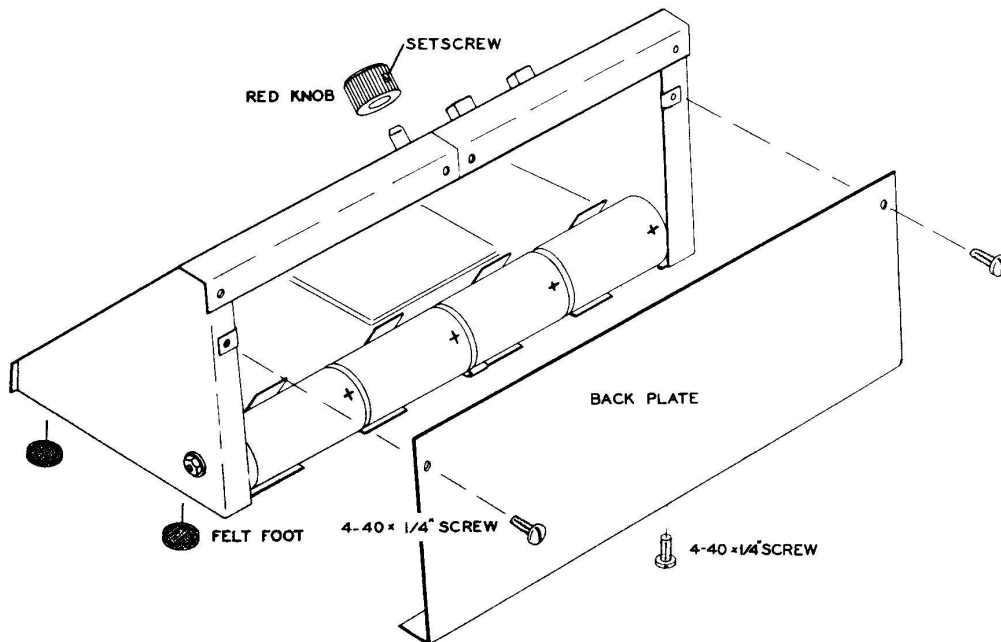

Figure 10N
- ( ) Install the four batteries as shown in Figure 10N. Now install the back plate to the two end panels and master bottom plate as shown, using three 4-40 x 1/4" screws.